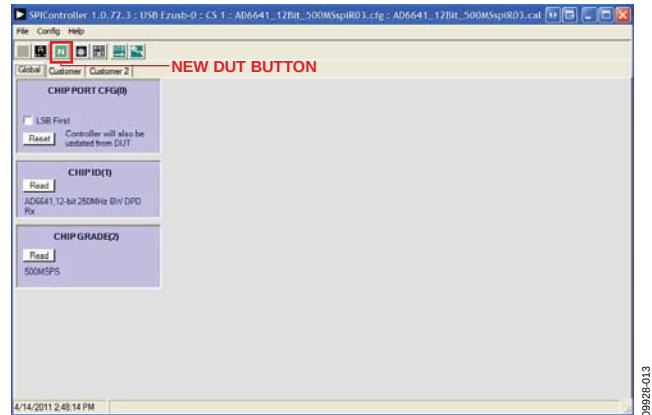

Figure 13. SPI Controller, New DUT Button
- Click the **New DUT** button in the **SPIController** window (see Figure 13).